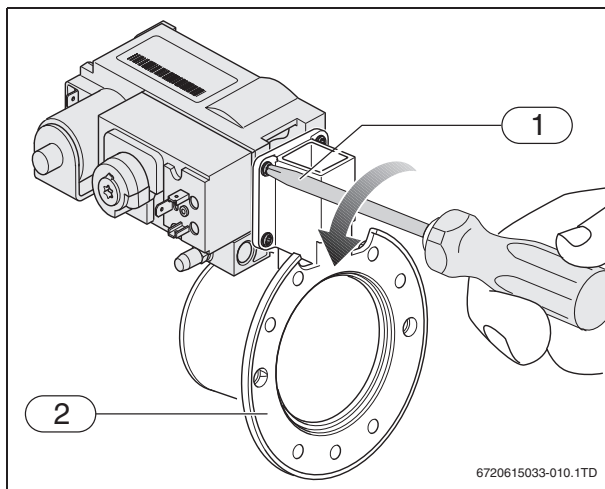

Fig. 9 Removing the gas valve
- Undo the 4 screws (→ fig. 9, [1]) and remove the gas valve from the venturi (→ fig. 9, [2]).